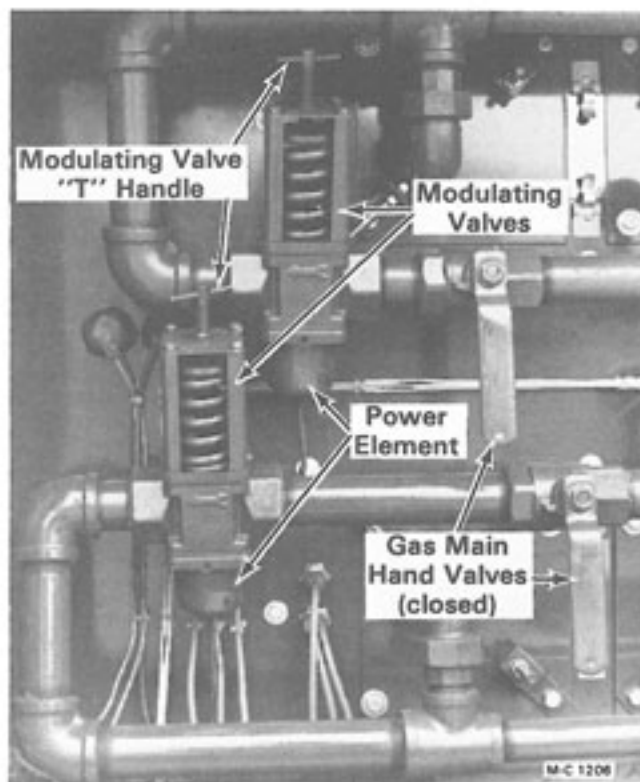

Figure 39 - Two Burner Cabinet
2. Close the gas main hand valve for each burner (handle 90° to the piping), see Figure 39.